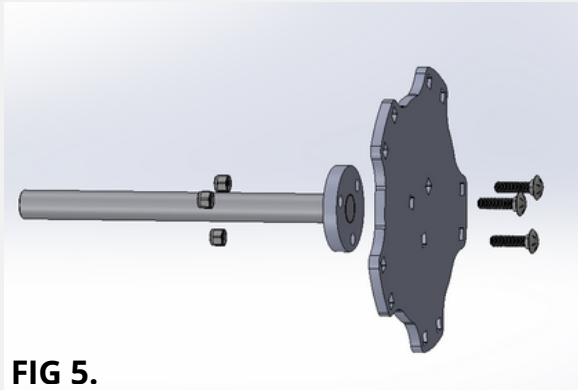

FIG 5.
3. Install Bearing Shaft to Center Paddle Plate using the 3/8"x 1-1/2" Carriage Bolts and 3/8" Nylon Nuts (3pcs), as shown in Fig. 5